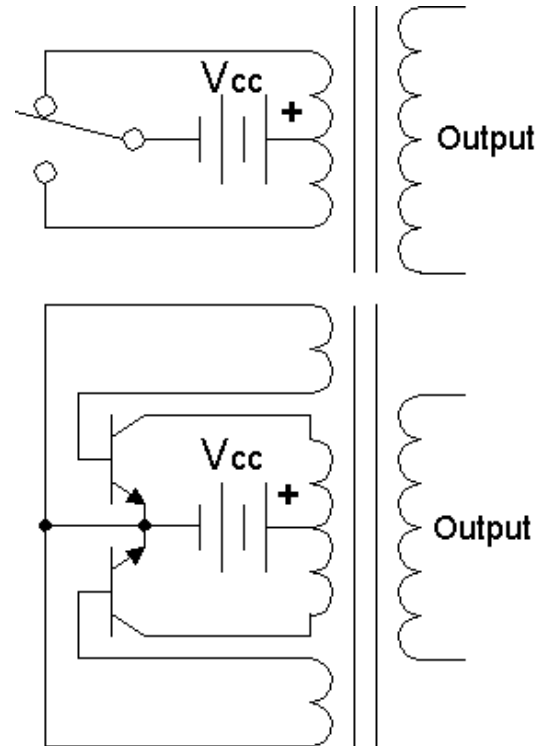

Figure 1: Basic Inverter Circuit
Inverter: An electrical device that converts direct current (DC) to alternating current (AC). The converted AC can be at any required voltage and frequency with the use of appropriate transformers, switching, and control circuits. Figure 1 shows a basic inverter circuit.